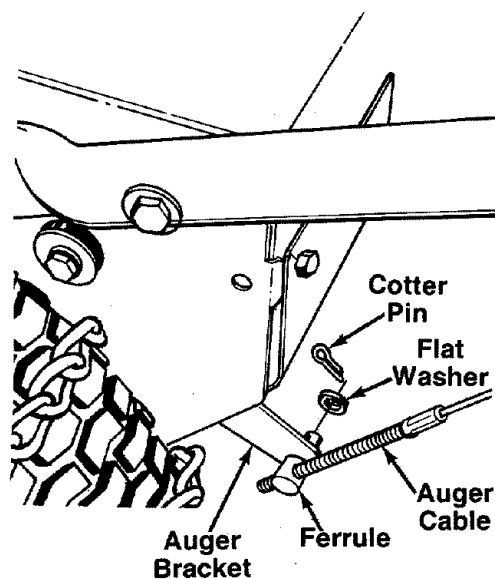

FIGURE 15.
← See figure 15.
3. Insert the ferrule into the auger bracket as shown in figure 15. Secure with  $\frac{5}{16}$ " flat washer and cotter pin, bending the ends of the cotter pin in opposite directions.